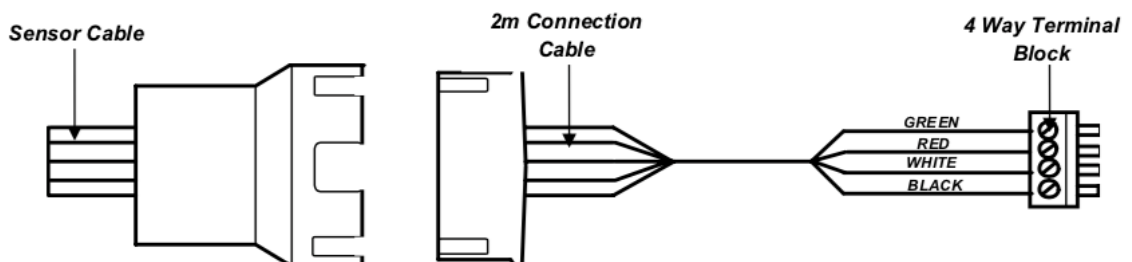

Figure 58: Personnel sensor 4-way terminal block
3. Plug the 4-way terminal block into the Auto Sash Control Unit (Figure 58). See the wiring schematic in section 6.10 and Figure 31.